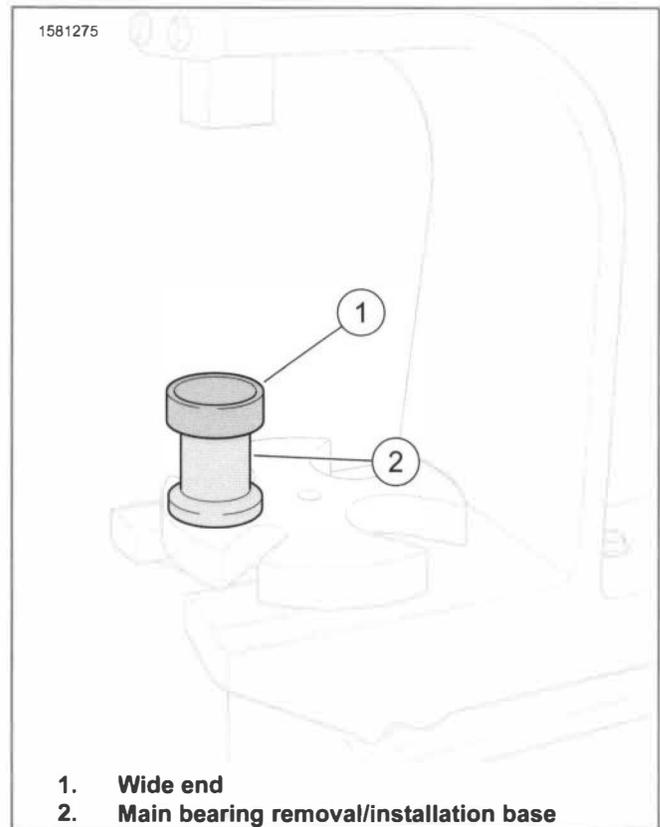

Figure 4-91. Main Bearing Removal/Installation Tool Base
- a. See Figure 4-91. Place main bearing removal/installation tool base (2) wide end (1) up.